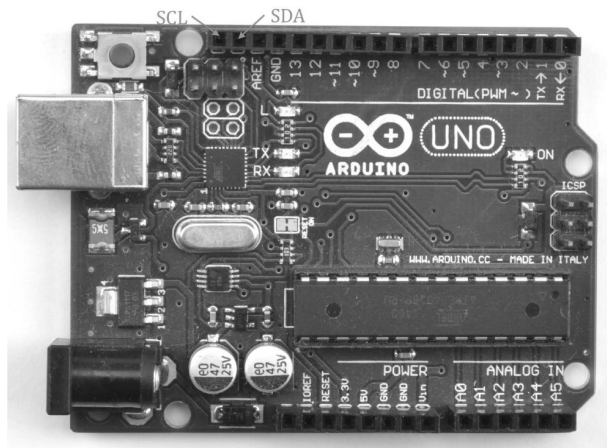

Figure 9.5 *Identifying the SCL and SDA pins of an Arduino Uno .*
- ◆ SCL on the display to the SCL pin of the Arduino. This is not labeled on the Arduino Uno itself but is indicated in Figure 9-5.
- ◆ SDA on the display to the SDA pin of the Arduino (also see Figure 9-5).